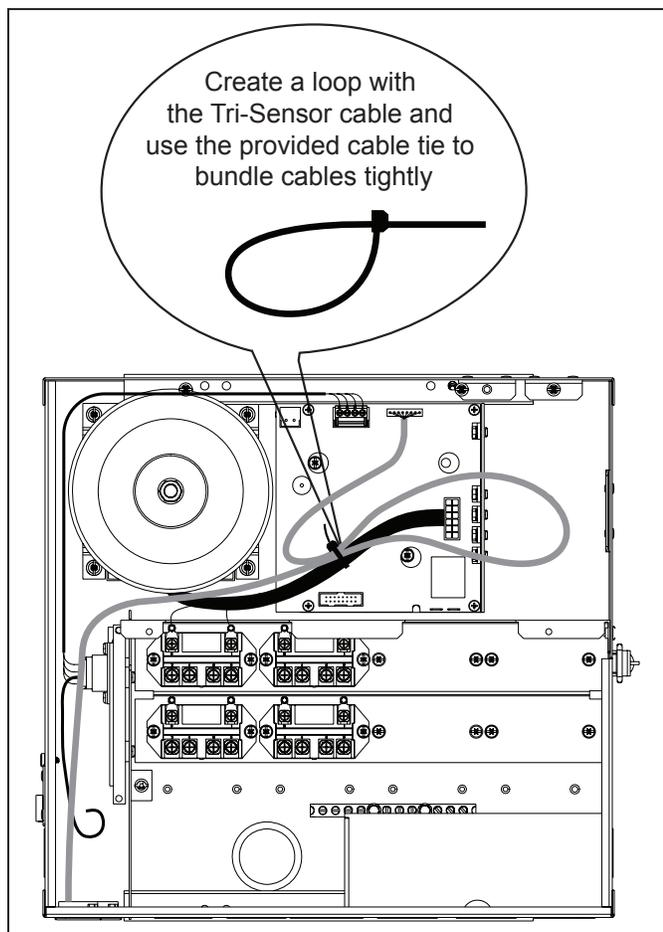

Figure 3. Cable Tie Installation for Strain Relief
6. Install cable tie for strain relief as shown in Figure 3.